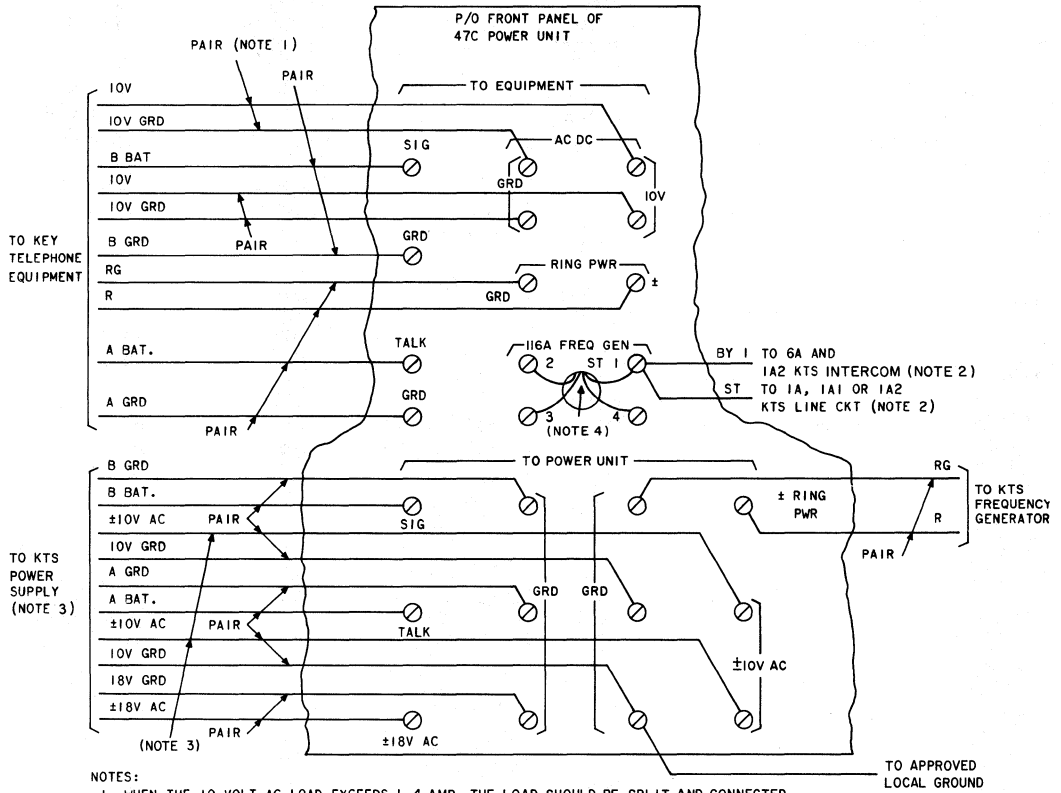

Fig. 3—Connections for 47C Power Unit
4.01 Connect power unit as shown in Fig. 3.